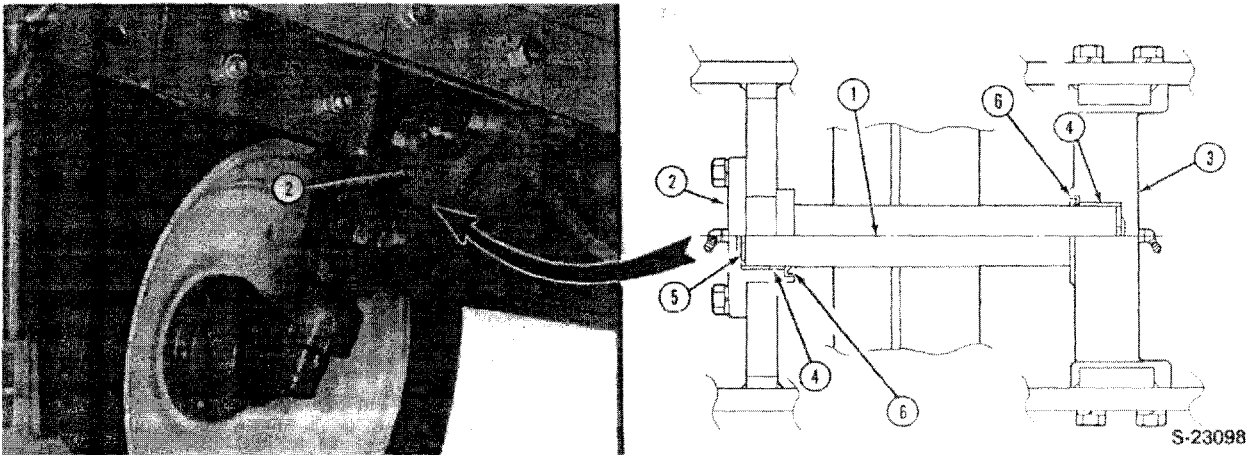

Figure 7
2. Check the end play of the front axle pivot shaft, Figure 7.
9. Position the front axle to the support assembly and install the front and rear pivot bearing holders, or cover as required, see Figure 7.
10. Using a suitable installer tool, install the oil seals being sure to position the seal lips facing outward from the casing, Figure 7.